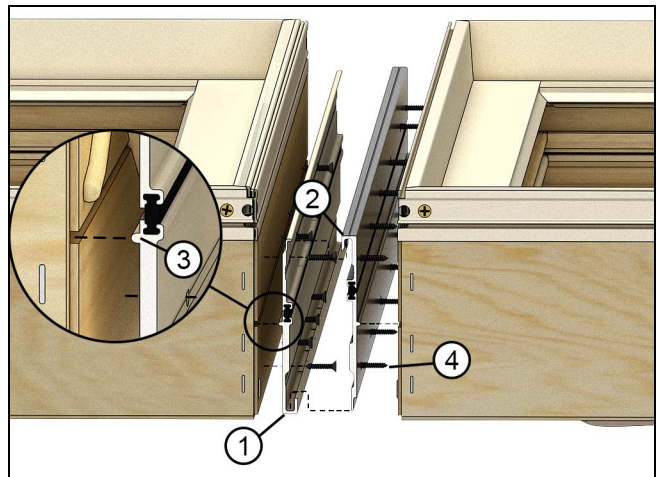

Figure 16
3. The MRF components come in two parts. The beige piece always has the hooked end to the interior. The black piece always has the "hooked" end to the exterior. Insert the alignment leg on the MRF component into the MRF kerf in the frame. Flush the MRF component with the end of the mull and fasten to the frame with #8x5/8" screws in every hole of the MRF. See Figure 16.